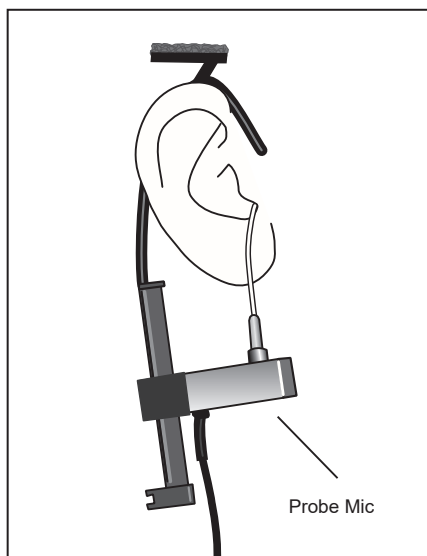

Figure 8.3.5C—Insert probe microphone
2. Insert the probe microphone into the client's ear, as described in Section 8.2.3. See Figure 8.3.5C.